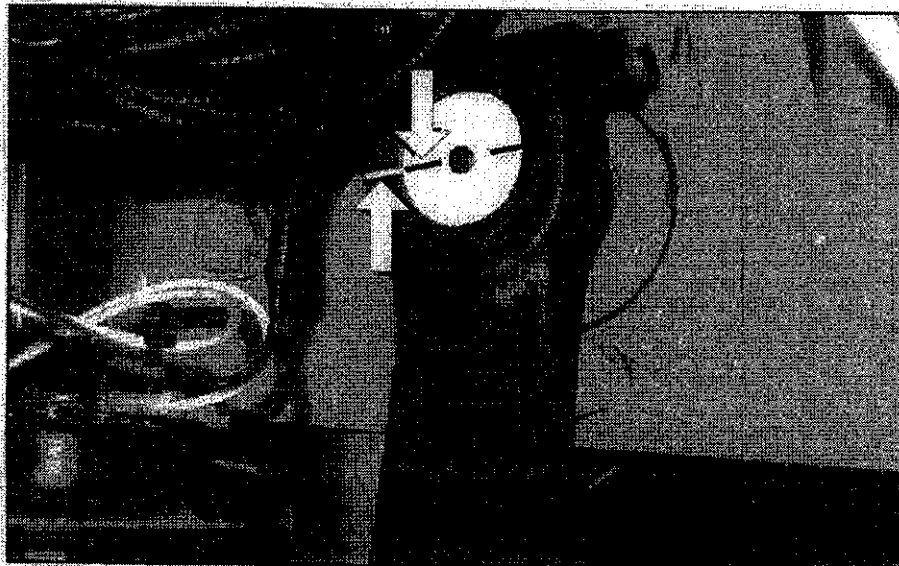

Figure 4.
16. Rotate the steering gear input shaft as required to orient the timing marks scribed on the end of the sector shaft in a horizontal position (Figure 4).